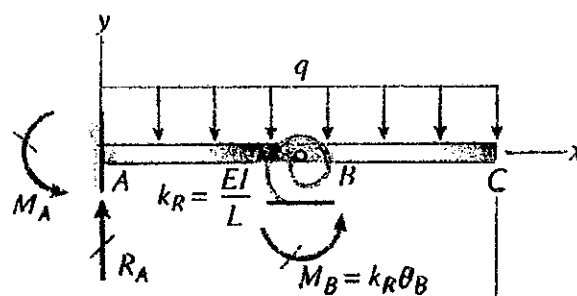
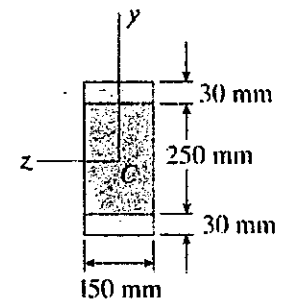

Fig. 2-1
Fig. 2-2
- The cantilever beam of Fig. 2-1 has a total length of 4 meters and is loaded by a uniformly distributed load with an intensity of  $q$  N/m. The beam is supported at the mid-span point  $B$  by a linear rotational spring with a spring constant  $k_R$  of  $5 \times 10^6$  N-m, which can provide a resisting moment  $M_B = k_R \times \theta_B$  when subjected to a rotational angle of  $\theta_B$ . The cross section of the beam is shown in Fig. 2-2 and composed of a wood section of  $150 \text{ mm} \times 250 \text{ mm}$  and two brass plates both with a cross section of  $150 \text{ mm} \times 50 \text{ mm}$ . The two brass plates are at the top and bottom of the beam. The moduli of elasticity  $E$  of the wood and brass in the beam are 15 and 100 GPa, respectively. Ignore the self-weight of the beam. (30%)